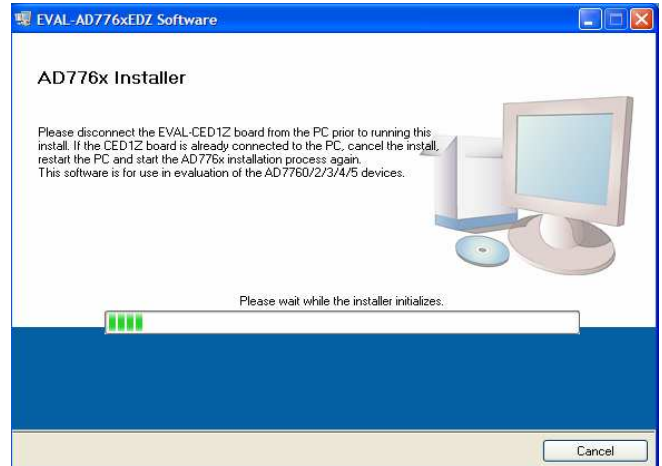

Figure 2. EVAL- AD7764/AD7765EDZ Setup Dialog Box, Initial Software Install Screen
2. The dialog box shown in Figure 2 appears.